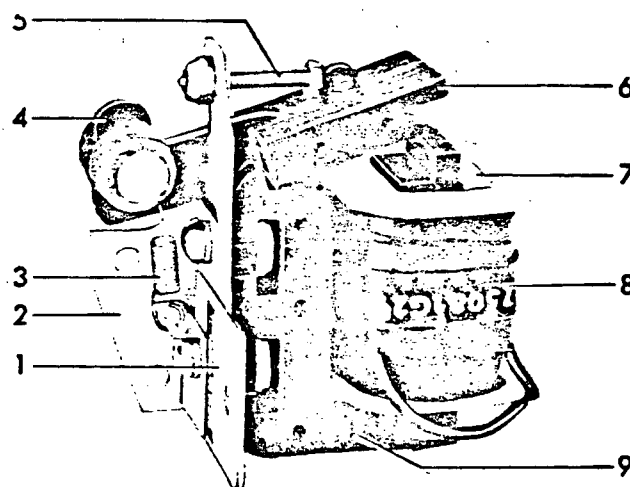

Figure 17. (8041863) Magnetic Trip Device
MAGNETIC TRIP DEVICE (Figure 17).
4. The Magnetic Trip Device which physically trips the breaker (Figure 17).